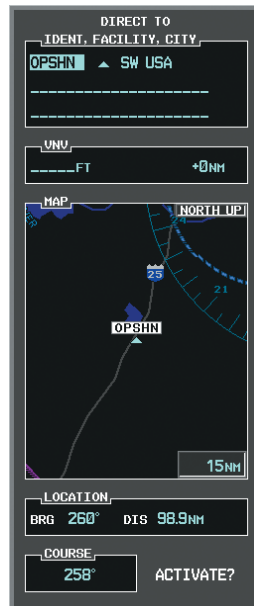

Figure 5-119 Direct To OPSHN
c) Press the **Direct-to** (D▶) Key. The Direct-to Window is now displayed as shown in Figure 5-119.